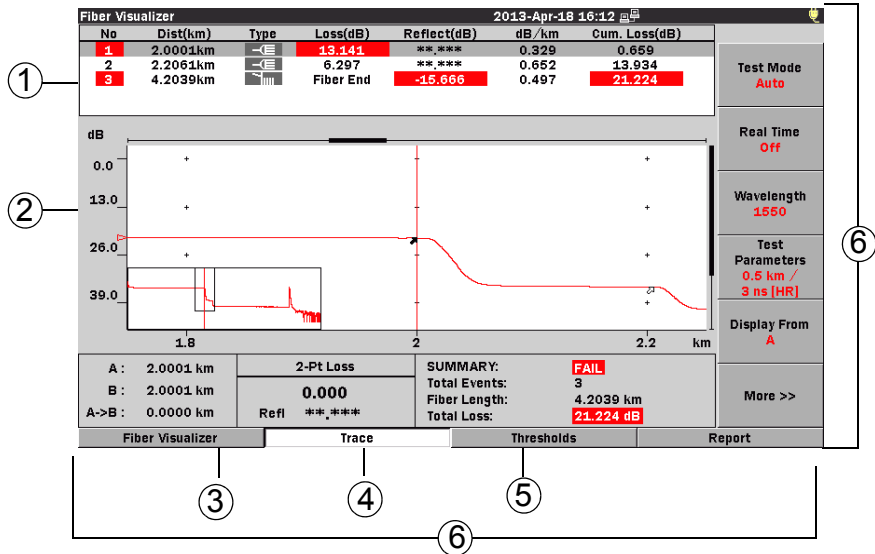

Figure 5-12: Trace screen
The Cursor Distance information (see item 3 in Figure 5-12 on page 5-23) displays the following:
The Loss Mode, Measurement, and Reflectance area (see item 4 in Figure 5-12 on page 5-23) displays the following:
The Fiber Test Parameters area (see item 5 in Figure 5-12 on page 5-23) displays the Wavelength (WL), Distance Range (DR), Pulsewidth (PW), Index of Refraction (IOR), Resolution (RES), and Averaging mode (AVG) set for the current test. The **Test Progress** bar indicates the current averaging status. See item 5 in Figure 4-10 on page 4-30.